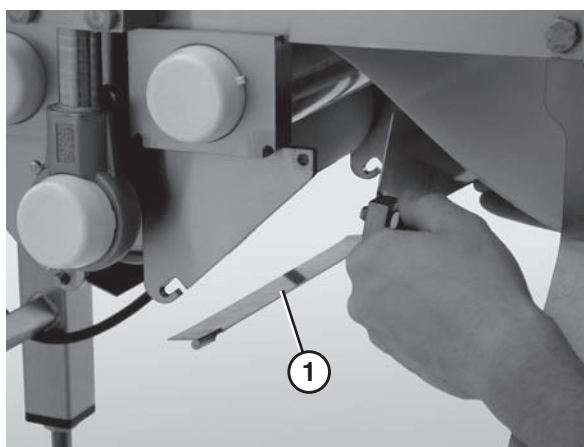

Figure 45
3. Lift up on the center drive guard (**Figure 45, item 1**) and remove it.